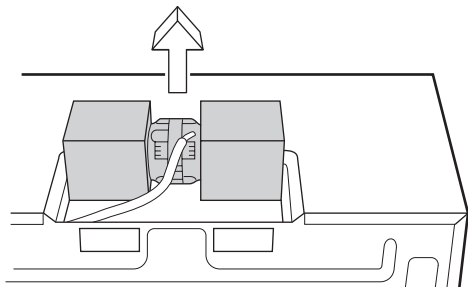

Figure 10
2. Lift HOOD FAN UNIT carefully and slip wires out of cavity. See figure 10. **CAUTION** – Do not pull or stretch hood fan wiring.